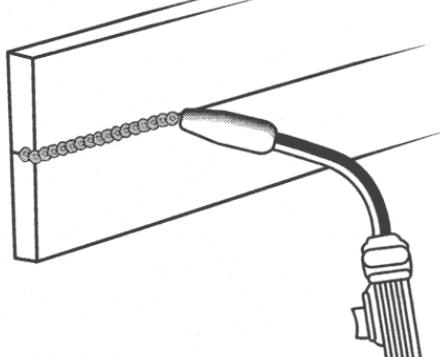

Figure 15. Horizontal Position
2. The HORIZONTAL POSITION (Figure 15) is next in difficulty level. It is performed very much the same as the flat weld except that angle B (see HOLDING THE GUN - p.18) is such that the wire, and therefore the arc force, is directed more toward the metal above the weld joint. This is to help prevent the weld puddle from running downward while still allowing slow enough travel speed to achieve good penetration. A good starting point for angle B is about 30 degrees DOWN from being perpendicular to the work piece.